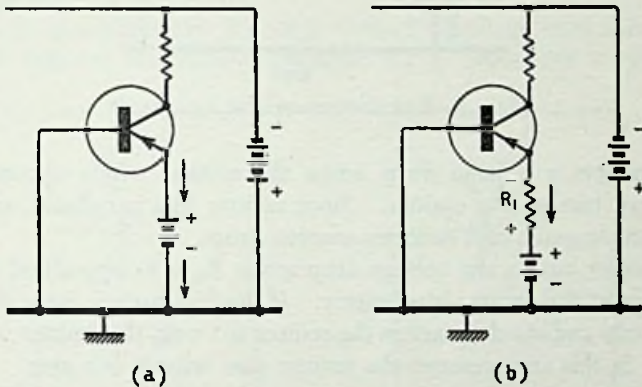

Fig. 5.6—Fundamental operation of an a.g.c. circuit
To see how a.g.c. can be made to function, consider the simple case of a single pnp transistor stage with an emitter bias battery in Fig. 5.6(a). The arrows near the emitter indicate the direction of electron flow from the collector circuit.
Suppose now we were to insert a resistor R_1 in series with the emitter bias battery as in Fig. 5.6(b). When current flows through R_1 ,
A.G.C. voltage does not necessarily require that there is a transistor as a detector. In fact, in British receivers it is a rarity. A diode demodulator is normally used and the required a.g.c. will still be obtained. But before getting too deep into this discussion, let us turn back for a minute to Fig. 5.6. In examining this circuit, we see that the emitter is positive with respect to the base. Another way of saying the same thing is that the base is negative—with respect to the emitter. We can reduce the gain of the pnp transistor by making the emitter less positive or by making the base less negative. These statements apply to npn transistors, except that the polarity of the voltages is reversed.